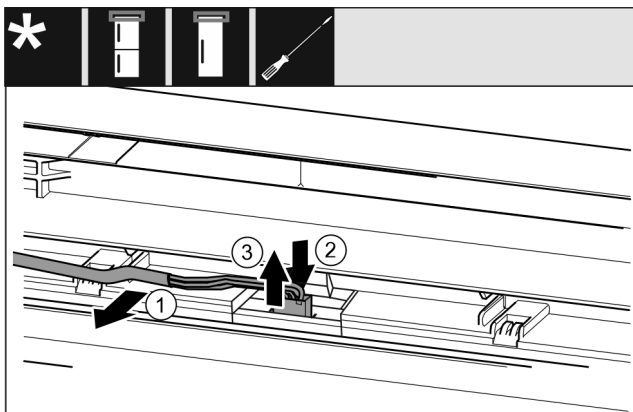

Fig. 22 Fridge/freezer combinations / freezers / refrigerators*
- ▶ Release the cable Fig. 22 (1) from the guide in the door carefully.*
- ▶ Push the tab Fig. 22 (2) behind the plug backwards.*
- ▶ Pull the plug Fig. 22 (3) out upwards carefully.*